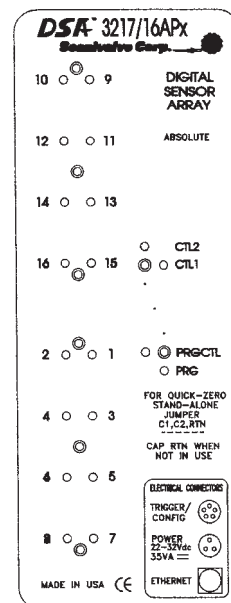

FIGURE 2.4 - DSA3217/16Px ABSOLUTE TOP PANEL
The DSA3217/16Px module can be used for absolute pressure measurement when equipped with absolute pressure transducers. A calibration valve is provided for each group of eight (8) sensors. All sixteen (16) transducers are tied a single calibration port, except in the cases of dual-range absolute modules. Figure 2.4 depicts the top panel of a DSA3217/16Px absolute pressure module.